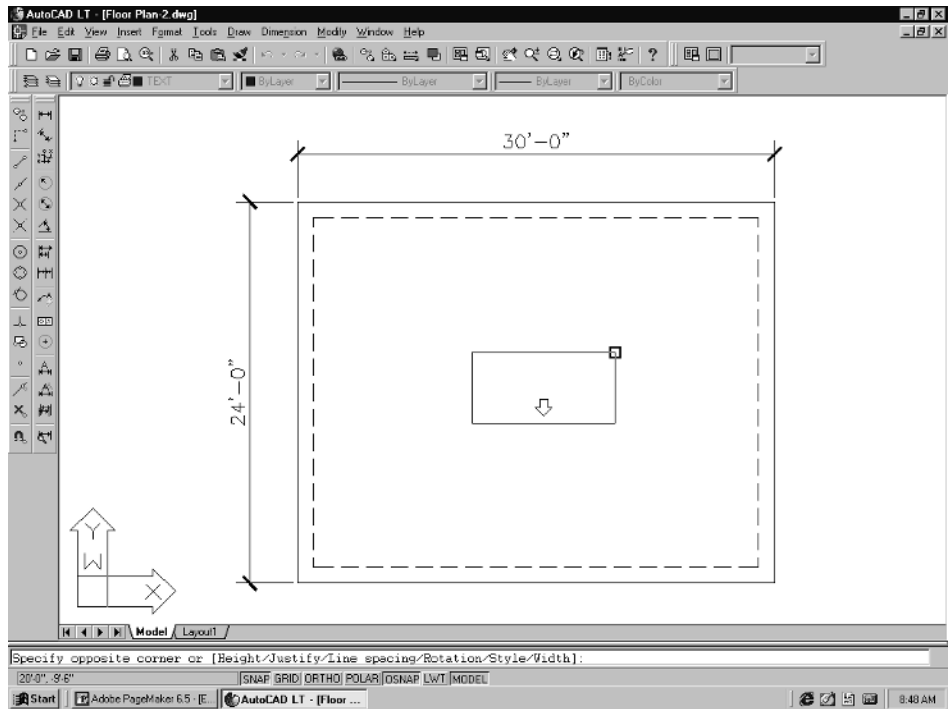

Figure 3-8
8. Next, you need to label the slab and footings. Change the current layer to **TEXT**. The text style should already be set to TEXT96. We will use the MText command for labeling. Type **MT** and **Enter**. You are prompted *First corner* and then *Other corner*. You are basically creating a box for your text to go in. See Figure 3-8.